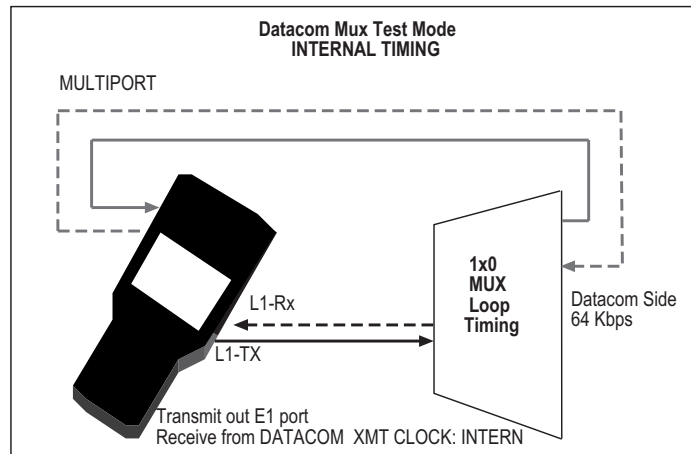

Figure 21 Internal Timing
- INTERN (F2) configures the set for master timing. Here, the set supplies the timing source, but the source is not synchronized to the network. Figure 21 depicts internal timing.